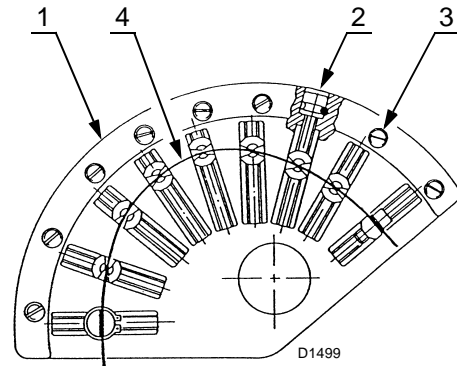

Fig. 28
Use the adjusters 2)(Fig. 28) after loosening the screws 3).
Key (Fig. 28)
- 6 Calibrate the air delivery by adjusting the variable profile cam with the screws 2)(Fig. 28).
- 9 With the optimal adjustment achieved, remember to lock the adjustment screws of the cam profiles by means of screws 3)(Fig. 28).